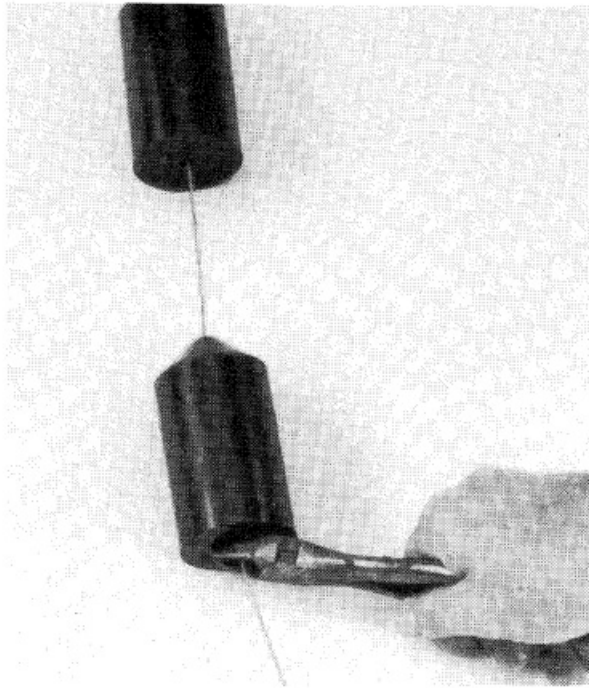

FIG. 5
- Excess cable must be cut-off flush with bottom of lower weight Fig 5. After cutting cable, loosen set screw of lower weight and slide weight down  $\frac{1}{4}$  inch so that end of cable will not be exposed. If cable is exposed, it may catch trash and cause faulty switch operation.